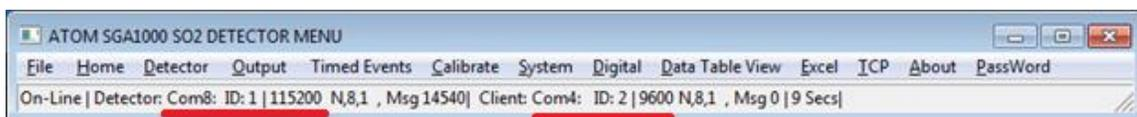

Figure 3.1
2. Before closing the atom.exe software note the information underlined in red. The settings/values shown in figure 3.1 are for example only and will be different for each user.